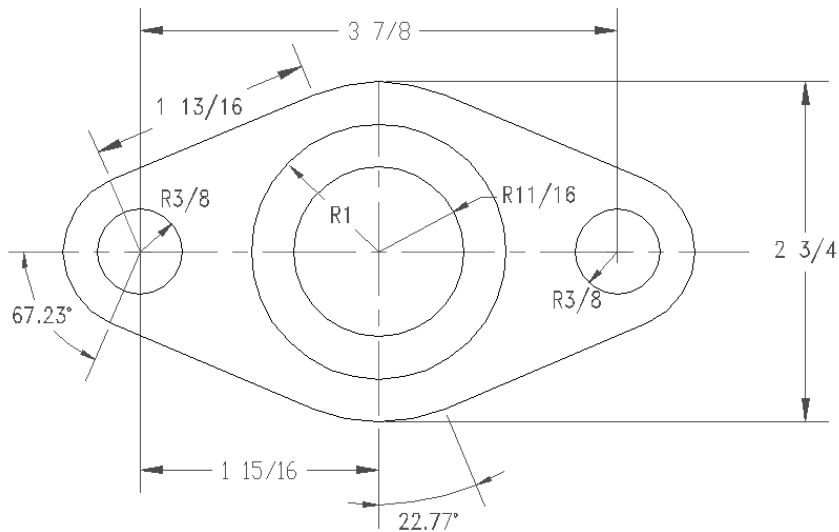

Figure 7-5: The dimensioned sealing plate for a valve.
2. Save the file as ab07-02.dwg in your AutoCAD Bible folder. ORTHO is on, and units are set to Fractional. Choose Tools ⇨ Drafting Settings (clicking the Object Snap tab, if necessary) and set running object snaps for intersection, center, and endpoint. Make sure OSNAP is on. In this exercise, you draw part of the sealing plate shown in Figure 7-5.